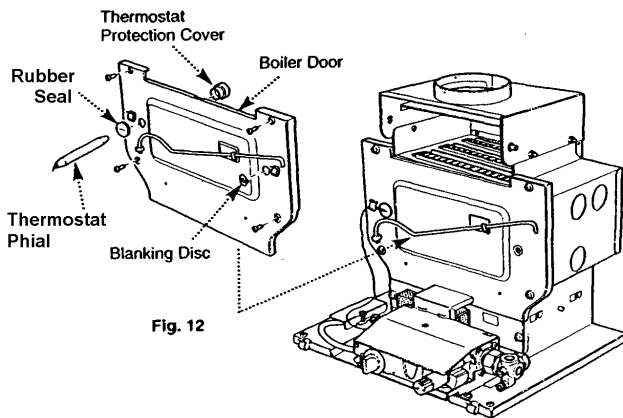

Fig. 12
6. Remove the blanking disc from the left hand hole in the boiler door and replace with the rubber seal and thermostat protection cover. Fit the blanking disc into the right hand hole (Fig. 12).